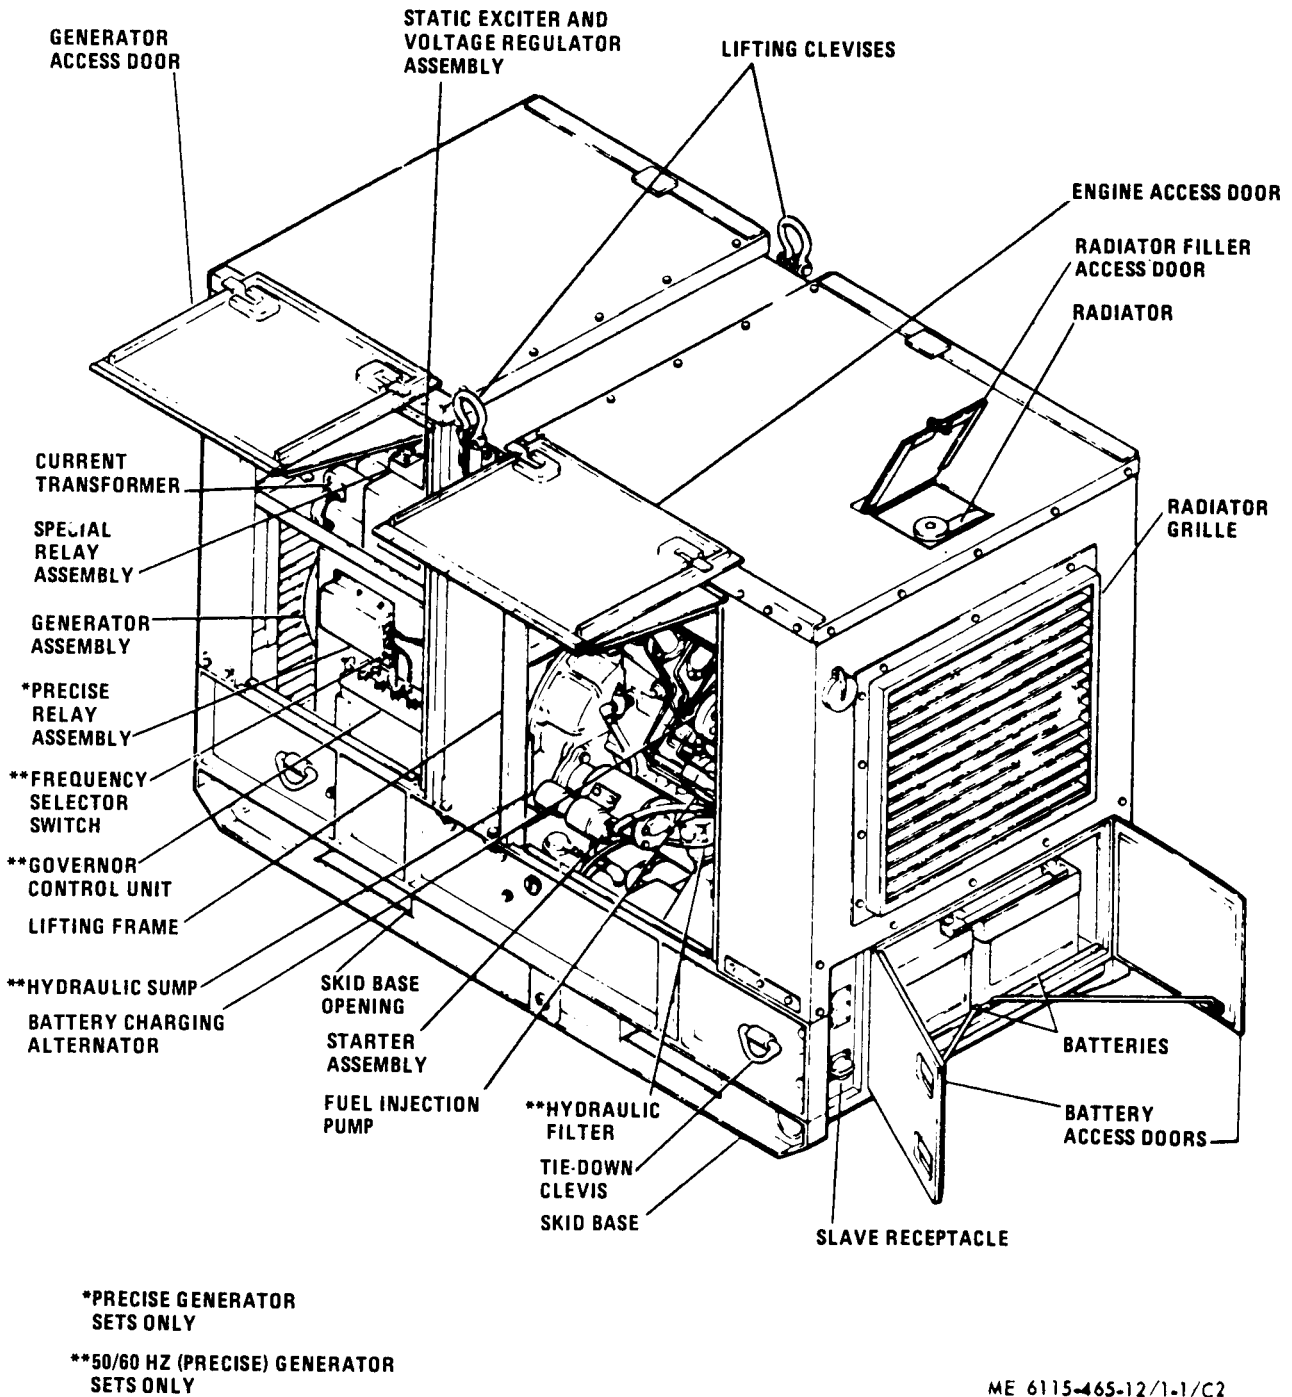

Figure 1-1. Engine Generator Set Right Front
**a.** General. The generator sets, models MEP-005A, MEP-104A and MEP-114A (figures 1-1, 1-1.1 and 1-2) are fully enclosed, self-contained, skid mounted, portable units. They are equipped with controls, instruments and accessories necessary for operation as single unit or in parallel with one or more units of the same class and mode. Each set is equipped with engine oil pan heating elements and necessary connections for field installation of winterization kits. Lifting clevises for hoisting the generator set are located at the top of the lifting frame and center support assembly. Tubular cross members, that will accept a chain, have been provided at the front and rear of the skid base assembly to permit towing or short distances. Mobility of the units may be obtained by mounting on trailers or equipping with a wheel mounting kit. To extend the capability of the generator sets, they have also been designed to accept and operate with the following optional kits:
(1) Fuel Burning Winterization Kit (paragraph 4-3).
(2) Electric Winterization Kit (paragraph 4-9).
(3) Wheel Mounting Kit (paragraph 4-15).
(4) Load Bank Kit (paragraph 4-20).
**(5) Automatic Transfer Panel 50/60 Hz: Monitors 50/60 Hz**